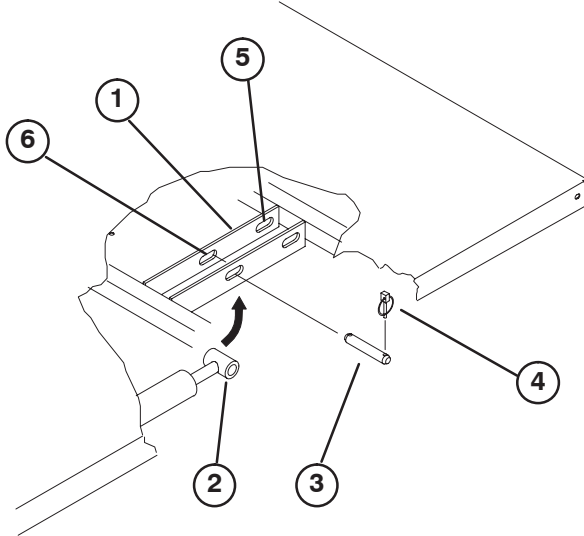

Figure 4
2. Remove lynch pins from outer ends of cylinder rod clevis pins (Fig. 4).